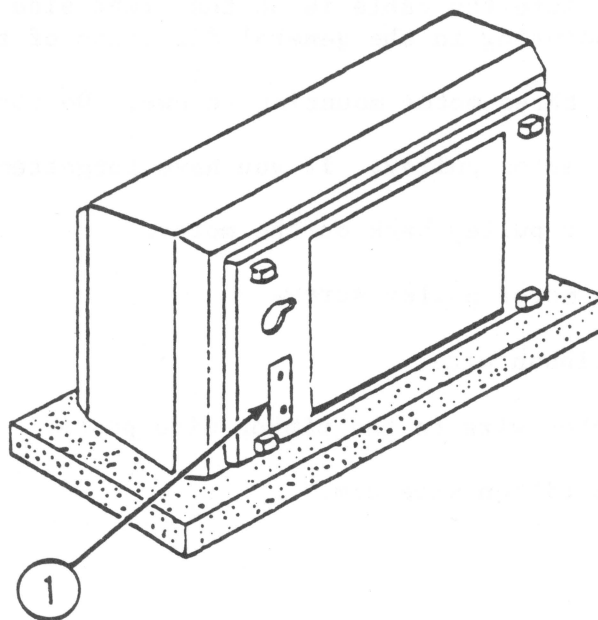

FIGURE 2
1. Make sure the threaded plate under the bottom of the printer is in position. (See Figure 2, #1.)